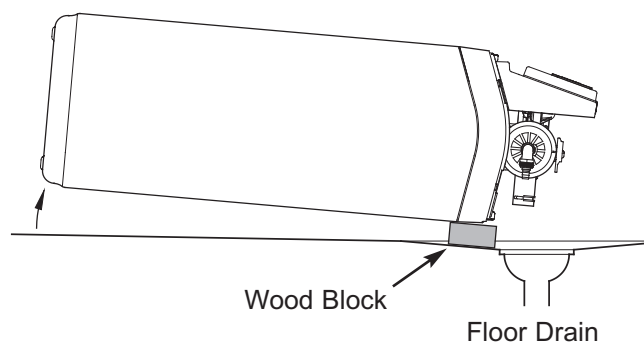

FIG. 85
6. Lay a piece of 2 inch thick board near the floor drain (See Figure 85).
7. Move the Central Water Filtration System close to the drain. Slowly and gently, tip it over until the rim rests on the wood block with the inlet and outlet over the drain (See Figure 85). Do not allow the unit's weight to rest on the inlet and outlet fittings or they may break.